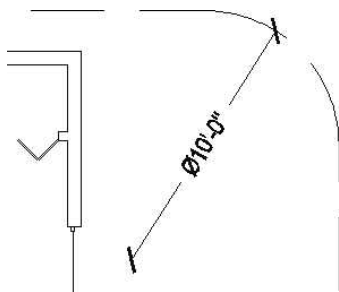

FIGURE 12.28: The diameter dimension positioned on the curve
4. Click to place the radius text in the dimension. The Ø prefix indicates that this is a diameter dimension. Where you click on the curve determines the angle of the radius dimension (see Figure 12.28).